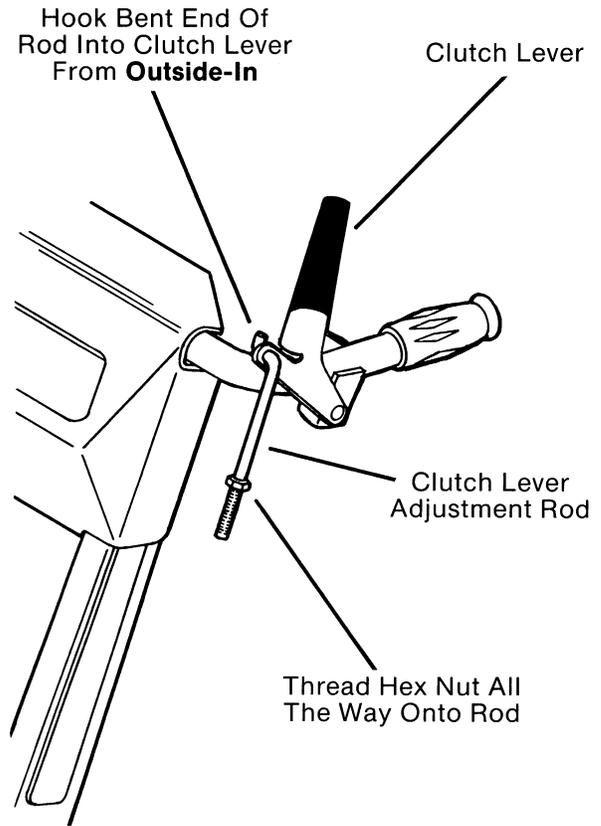

FIG. 8
- J. Turn a 1/4" hex nut all the way onto the end of clutch lever adjustment rod; (Fig. 8) hook other end of rod into clutch lever.